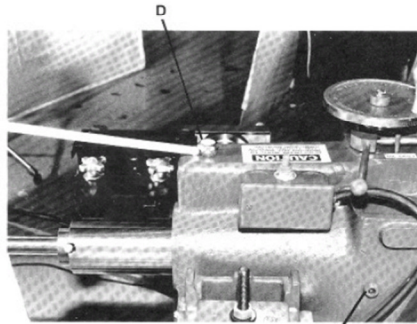

FIGURE 2
- Fill to hole “C” from hole “D” in figure 2 below.